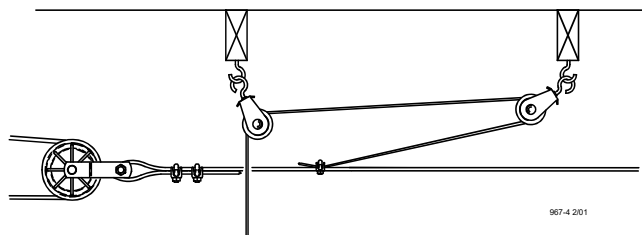

Figure 17. "Throwback" cable arrangement
3. Allow enough cable length for installation of the Adjustment Leveler. Sufficient cable is included to provide “throwbacks” on drops located beneath and near the winch. **Figure 17** shows a “throwback” cable arrangement.